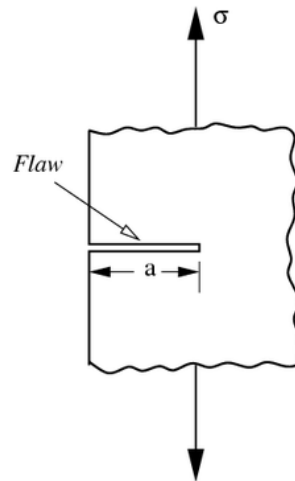

Figure 4
- (b) An edge crack in an infinite width plate has a flaw in the form of an edge crack of length,  $a$ , as shown in Figure 4. The geometric factor,  $Y = 1.12$ , can be used in calculating the Stress Intensity Factor, solution.